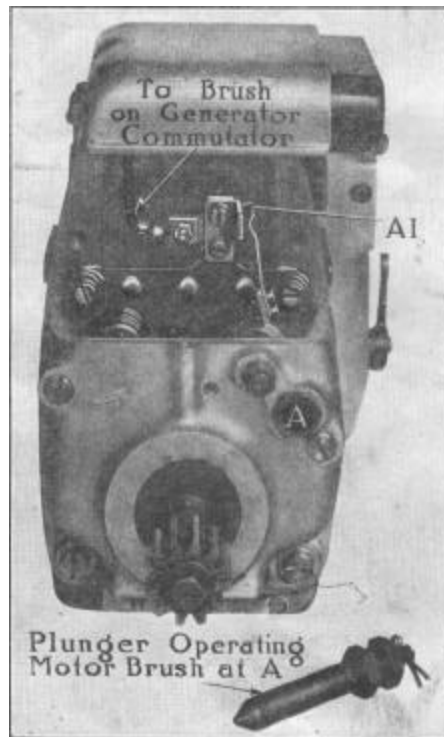

Fig. 2
Note—Numbers and letters on this diagram correspond with those on figures 2, 3, and 4.
3. Generator circuit is opened at contacts A-1, Fig. 2, by movement of brush.